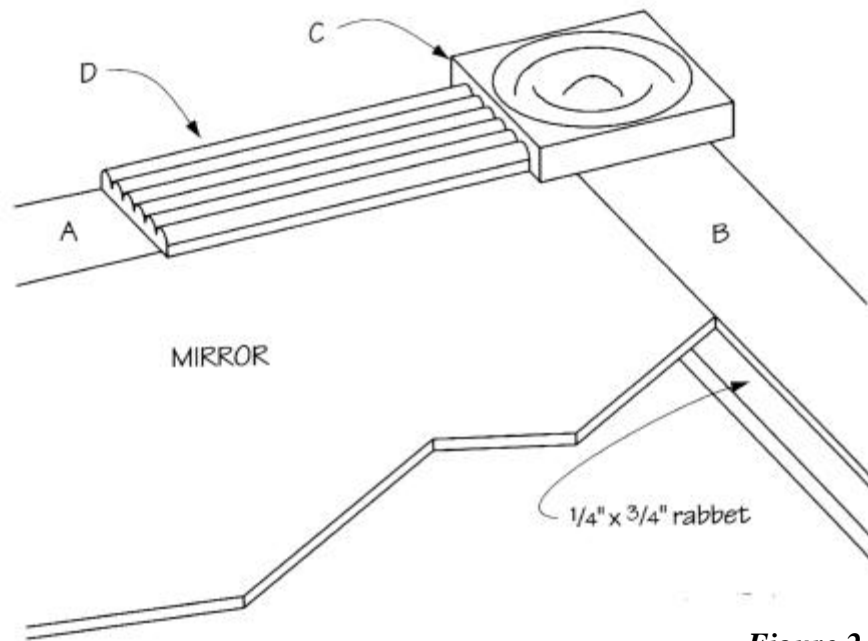

Figure 2
6. Refer to the project photograph and to *Figure 2* to place the trim on the mirror. Begin by placing the four decorative squares (C) at the four corners of the rectangular frame. They should extend over the outside of the rectangular frame by $\frac{1}{2}$ on each side. Use spring clamps or weights to hold the decorative squares (C) in place while you fit the long and short beaded moldings (D and E).
7. The beaded moldings (D and E) lie flush with the outside edge of the rectangular frame and fit between the decorative squares (C). Furthermore, the 3"-wide beaded moldings (D and E) must be centered widthwise on the 4-inch decorative squares (C). Measuring between the clamped decorative squares (C) cut the long beaded moldings (D) and the short beaded moldings (E) to fit. Lay the beaded moldings (D and E) in place and make sure that all the joints are snug.
9. Remove the clamps or weights from the decorative squares (C). Glue and nail the four decorative squares (C) in place, using three 1-1/4" 3d finishing nails through each of the decorative squares (C).